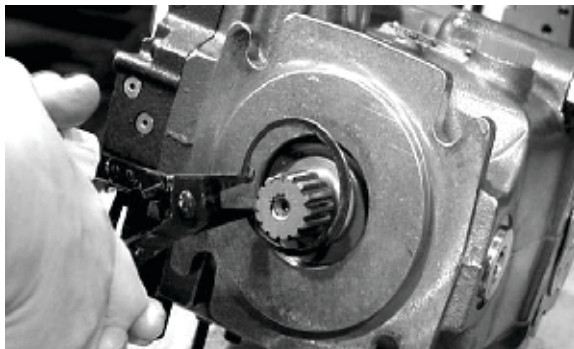

Figure 1. Remove retaining ring
- a. Remove and discard the shaft seal retaining ring (Figure 1).